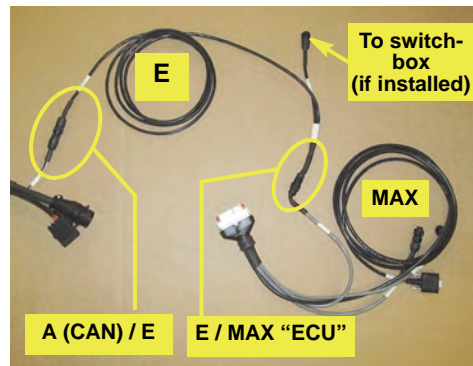

Figure 1c: Splitter cable connections
- c. Using the splitter (‘Y’) cable **E** (but see note following), tie into the existing CAN connection. For example, connect **E** between the 7-pin CAN connector labeled “ECU” on the Outback MAX cable (with the white main connector) and the 7-pin CAN connector on interface cable **A** (Figure 1c).
You can use splitter cable **E** as an extension cable between interface cable **A** and the CAN connection “ECU” on the (white connector) Outback MAX cable. You can also use cable **E** to connect the switchbox if installed (Figure 1c).